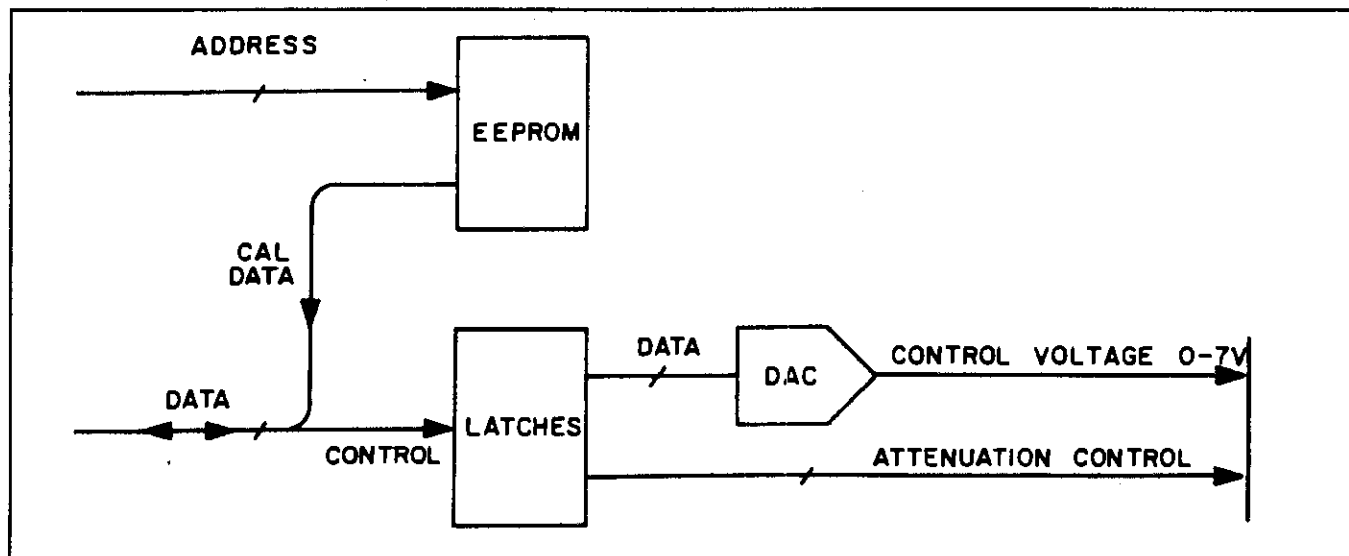

Figure 5-5. 30 MHz Digital Block Diagram
7. **30 MHz Digital Board A3.** Refer to Figure 5-5. The unipolar configuration of the D/A will provide 0 to +10 volts. This voltage is used as the reference voltage for the leveling loop. The typical DC voltage for full scale (+20 dBm, +10.0, etc.) is 6.7 V and 2.38 V for downscale (-9 dB).